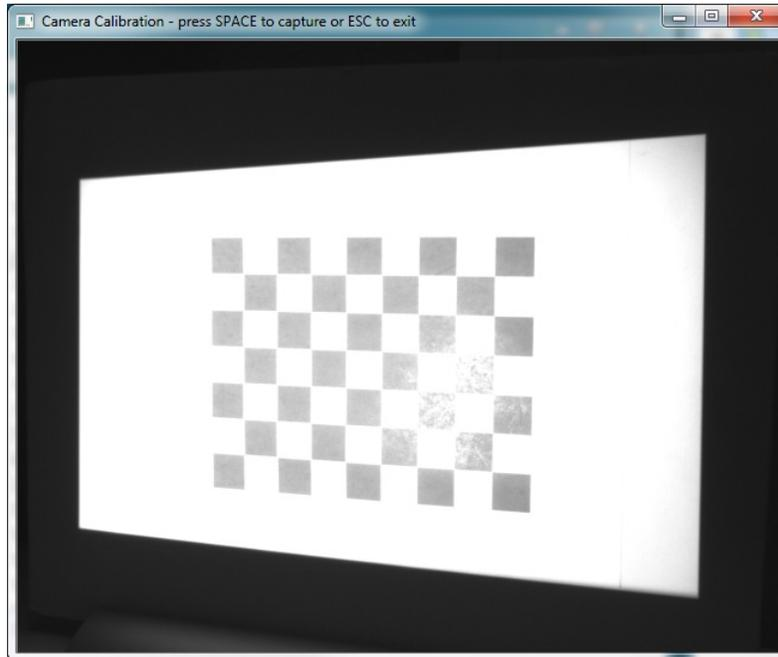
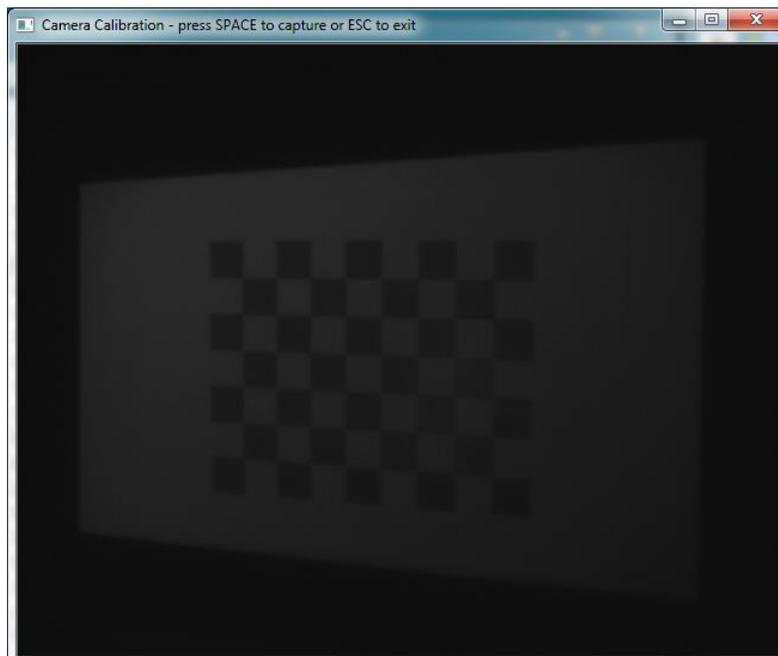

Figure 3-11. Overexposed Camera Capture
Figure 3-12. Underexposed Camera Capture
7. Stop down the aperture as low as possible while still being able to discern the gray and white squares on the calibration board and minimize all sources of glare. Make sure the projection area is in focus, and lock the aperture and focus. An example of an overexposed image is shown in Figure 3-11, and an example of an underexposed image is shown in Figure 3-12.